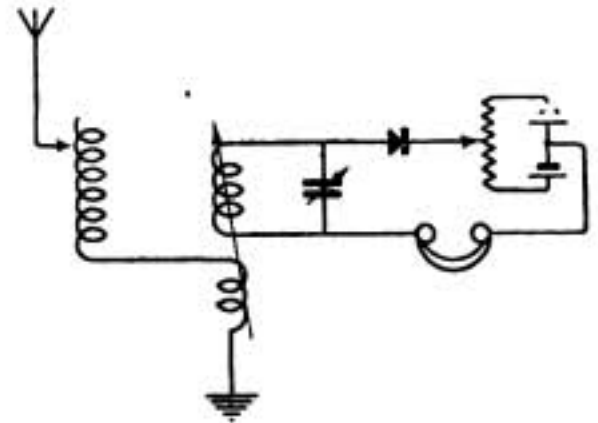

Fig. 1.
(1) In your set put the aerial to the slider and the condenser to the top of the coil and not vice versa as shown. See Fig. 5, page 124, April 22nd issue. (2) Up to about 4,000 metres. (3) The rearrangement should be as in diagram (Fig. 1).
(1) A suitable circuit is shown in Fig. 1, page 335, June 10th issue. (2) Telephony in the London district; ships within about 100 miles and continental stations, such as the Eiffel Tower. (3) Honey-
(1) This set is most efficient at longer wavelengths than are used for most telephony. London telephony should be audible, but will probably be weak. (2) Such a set has been described in detail recently. For a suitable circuit see Fig. 1, page 811, March 18th issue.